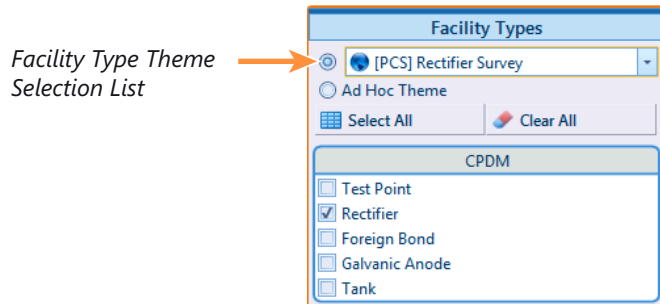
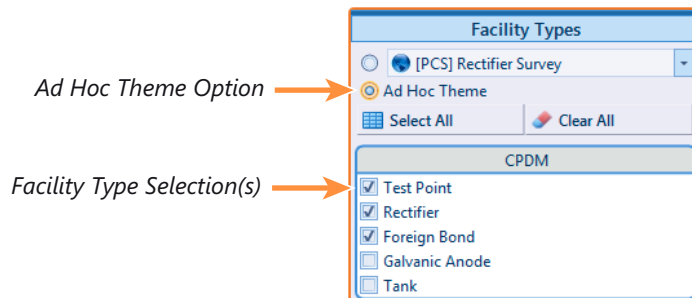

Figure 9-5. Facility Type Theme Option
Figure 9-6. Ad Hoc Theme Option
- a To select a facility type theme, click the themes option button and then click the down arrow and select a theme in list, such as *[PCS] Rectifier Survey* (Figure 9-5).
- b To select multiple facility types, click the **Ad Hoc Theme** option and then click the check box for one or more facility types, such as *Test Point*, *Rectifier*, and *Foreign Bond* (Figure 9-6).
- 3 Choose the facility type(s) you want to work with by selecting a *facility type theme* or setting up an *Ad Hoc Theme* in *Facility Types*. See Figure 9-5 or Figure 9-6 on page 424.